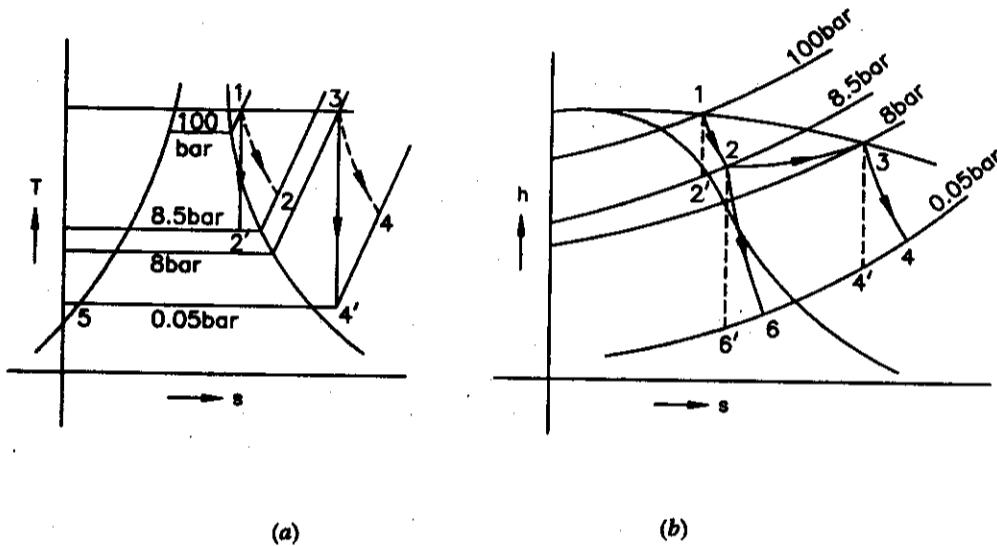

Fig. Prob. 22.5.
**Solution.** The cycle of operation is represented on  $T-s$  diagram as shown in Fig. Prob. 22.5 (a) and the reheating and expansion processes are represented on  $h-s$  chart as shown in Fig. Prob. 22.5 (b).
If there is no reheating then the process of expansion in the second stage of the turbine is shown in Fig. Prob. 22.5 (b) by the process 2-6.